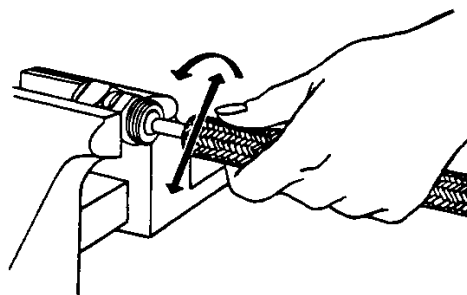

Figure 14 - Size Tube And Flare Braid
Step 3. Size tube and flare braid. Place nipple hex in vise. Push end of hose onto the nipple and work gently to aid in separating the wire braid from the tube. (See Figure 14.) Remove hose from nipple.